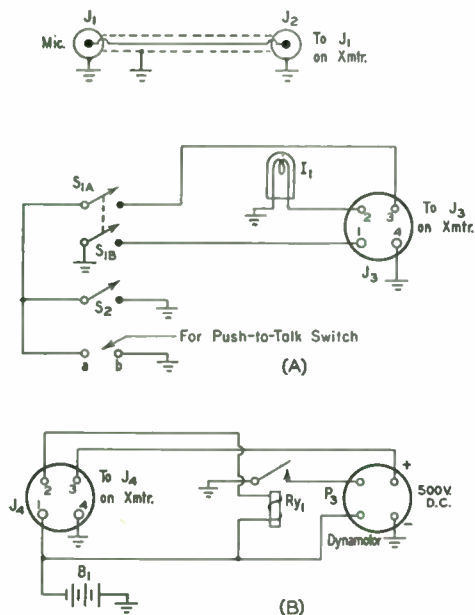

Fig. 2 — Diagram of control (A) and power connections (B) for the 30-watt mobile transmitter.
Components shown in Fig. 2 (A) are mounted in a 4 × 4 × 2-inch box located under the dash.